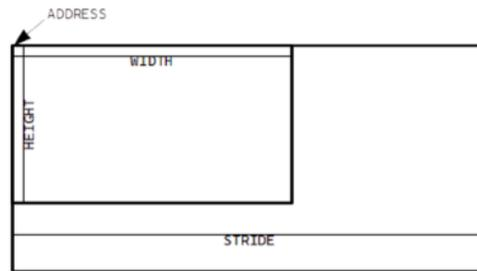

Figure 2: A rectangular (2D) memory block
**RECT <address>, <width>, <height>, <stride>** This structure specified that the block is a 2D or rectangular block. The block starts at <address> and is <width> bytes wide and <height> bytes high. The block is part of a potentially larger rectangular "image" that is <stride> bytes wide. (See: Figure 2)